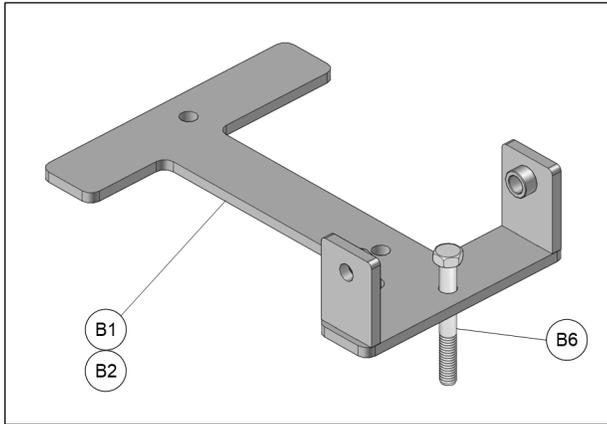

Fig. 4
4. Insert the provided M10x80mm bolt (**B6**) in the rear anchor bracket (**B1-B2**), as shown in Fig. 4